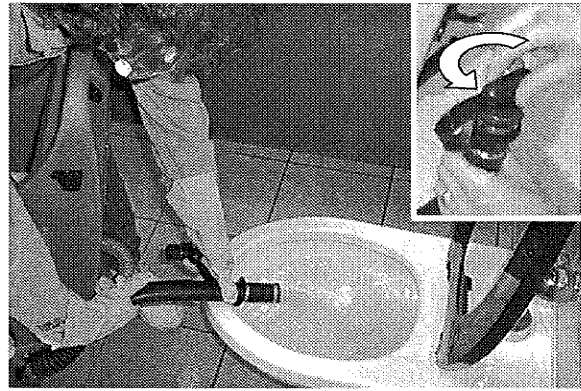

FIG. 28
2. Remove drain hose from holder. Turn drain hose knob counter-clockwise approximately three full turns and pull out plug to drain. Keep hose above water level when removing plug (Figure 28).